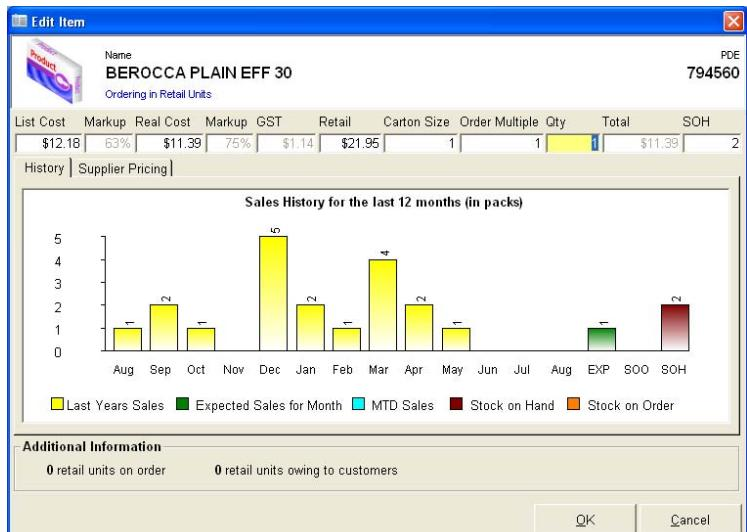

Figure 291
10. Once you have selected your product, the 'Edit Item' screen will display (as shown in Figure 291).